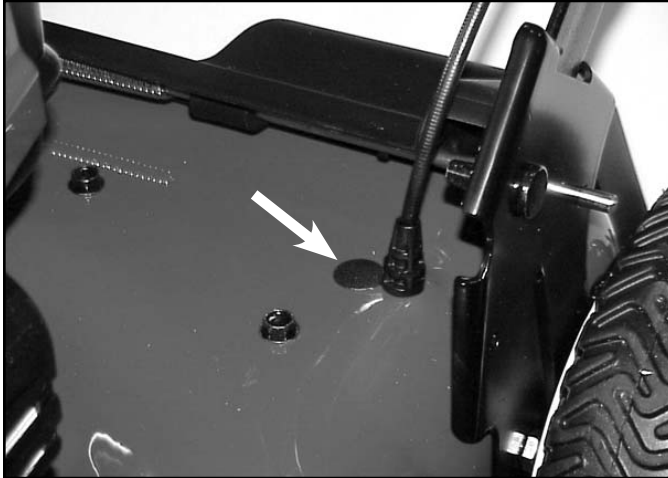

Fig 062
3. Remove the plug from the hole next to where the self propel cable goes through the chassis (Fig. 062).